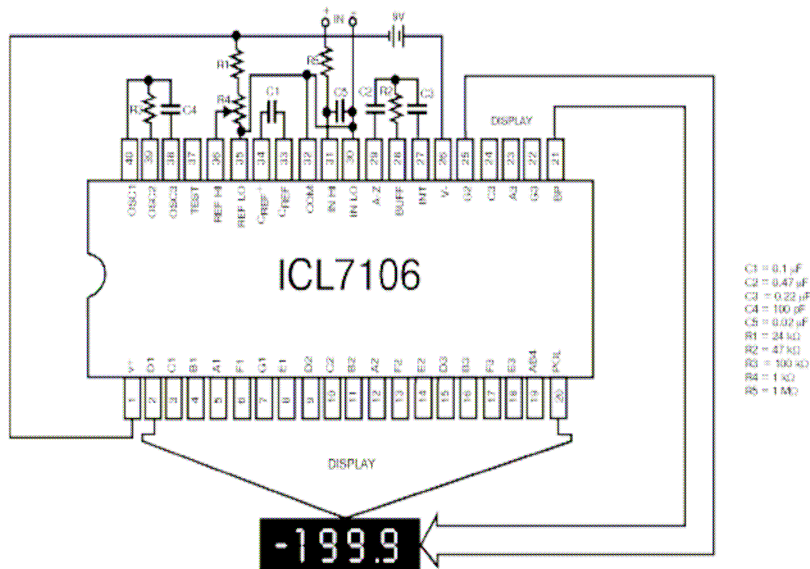
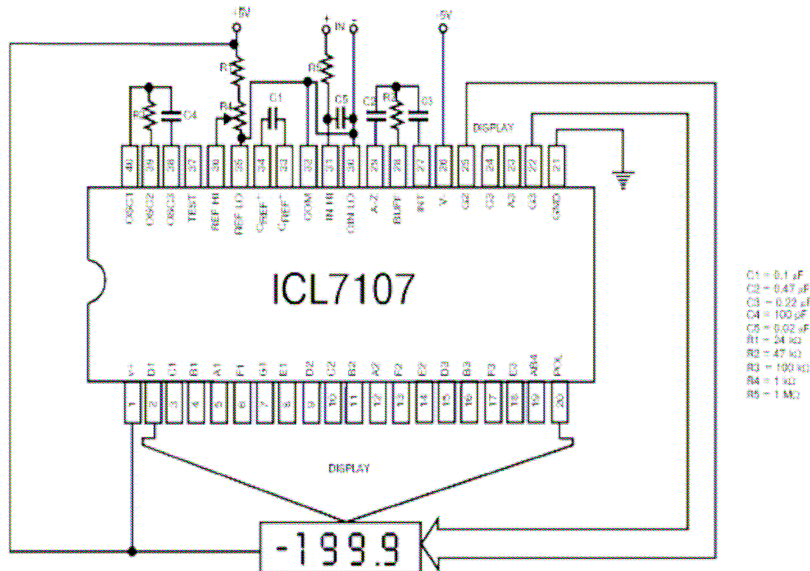

Figure 1. ICL7106 test circuit and typical application with LCD display components selected for 200mV full scale.
Figure 2. ICL7107 test circuit and typical application with LED display components selected for 200mV full scale.
2. Unless otherwise noted, specifications apply to both the ICL7106 and ICL7107 at $T_A = +25^\circ\text{C}$, $f_{CLOCK} = 48\text{kHz}$. ICL7107 is tested in the circuit of Figure 1. ICL7107 is tested in the circuit of Figure 2.